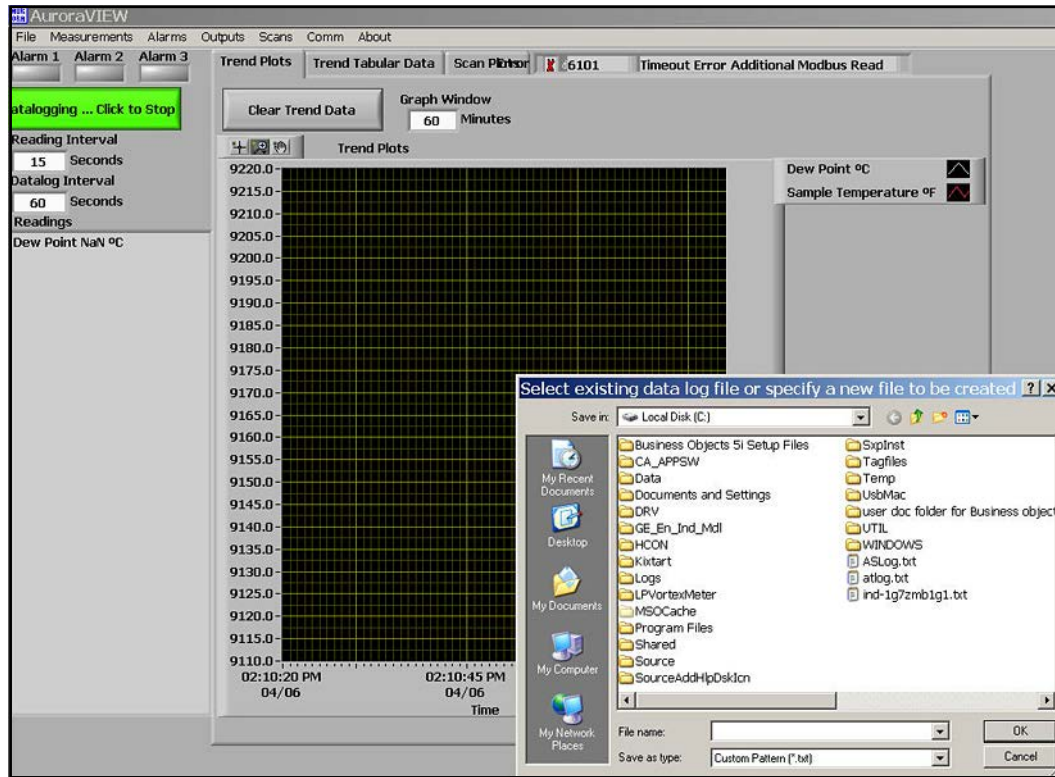

Figure 72: Datalogging with AuroraView
1. In the main view (see *Figure 72* below), click on the button Click to Datalog.